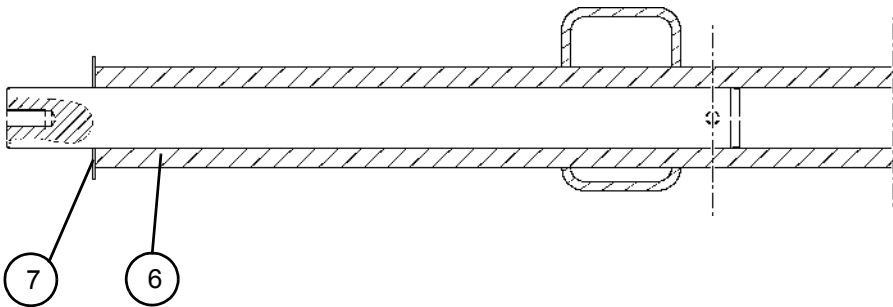

Fig. 2
- Check that the axial clearance between the chassis and the lower arm (6) does not exceed 1mm; otherwise, adjust the clearance using the adjustment wedges (7) provided (see figure 2).